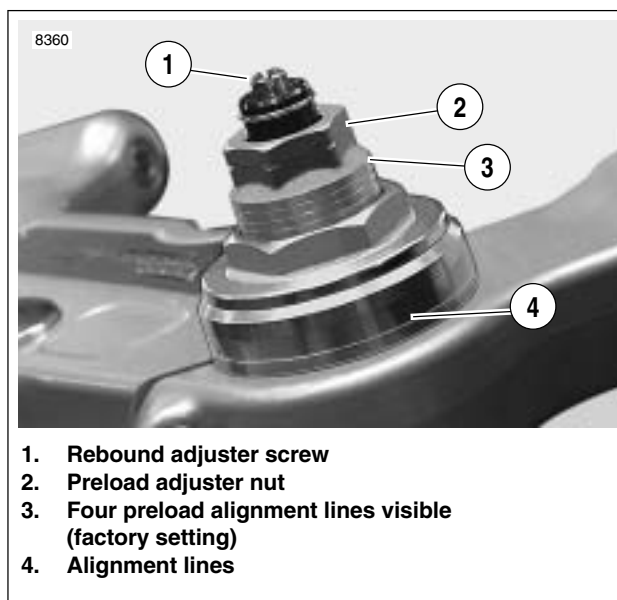

Figure 2-74. Front Fork Preload And Rebound Adjuster
4. See Figure 2-74. Position fork with alignment lines (4) visible and reflector facing to the side and tighten the lower fork clamp.